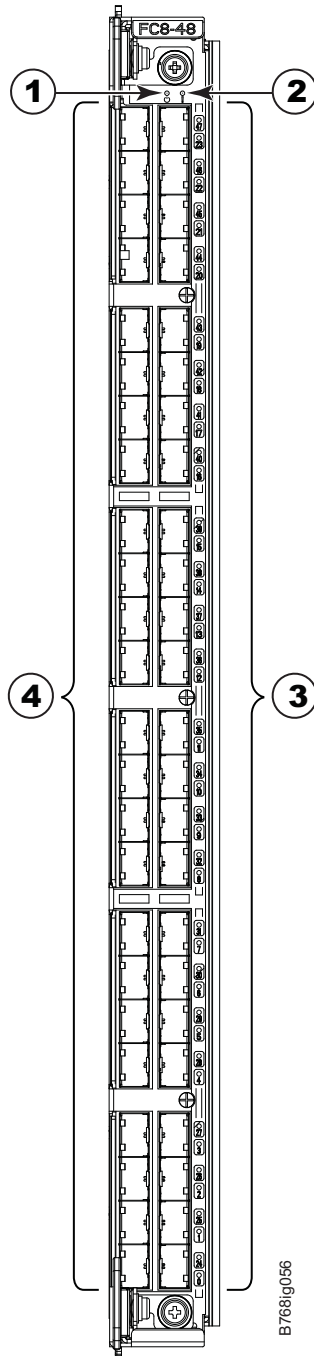

Figure 52. FC8-48 port blade
- Figure 52 on page 150 shows an FC8-48 port blade